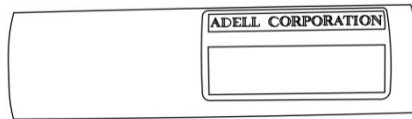

Fig. 1-1
**NOTE:** The adjustment tool can be used if sealant is close to the door's edge. This must be done to allow for proper **Door Edge Guard** installation (Fig. 1-1).